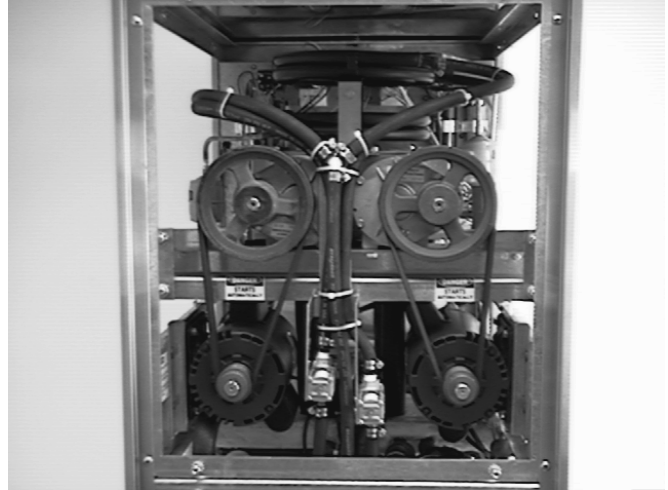

Figure 49. Drive Motor and Belt Removal
4. Tighten the drive belts. Figure 49.
3. Tighten drive belts. Figure 49.